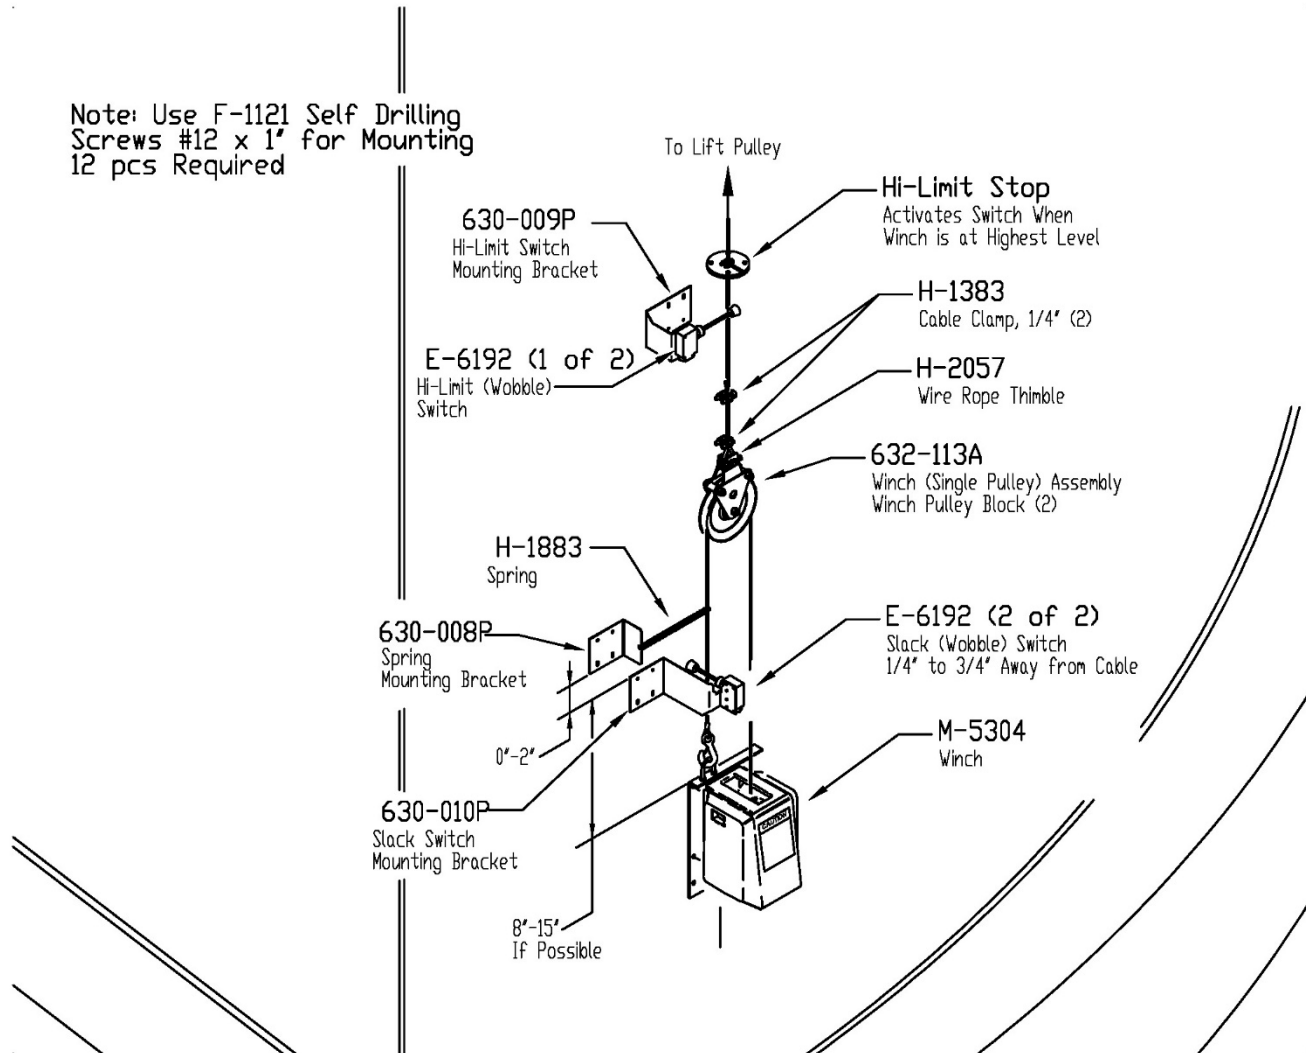

Fig 14.81
**14s. Mount Wobble Switches** to the 630-009P High Limit Mount and 630-010P Slack Switch Mount. Install them as shown in Fig 14.81 with the Level-Dry in its Highest Position.